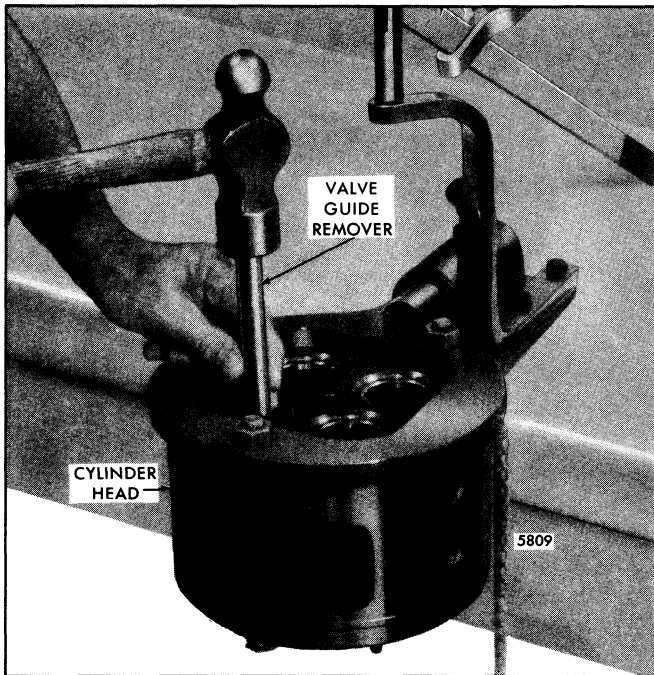

Fig. 5 - Removing Exhaust Valve Guide
2. Drive or press the valve guide out from the bottom of the cylinder head with tool J 23458 (Fig. 5).